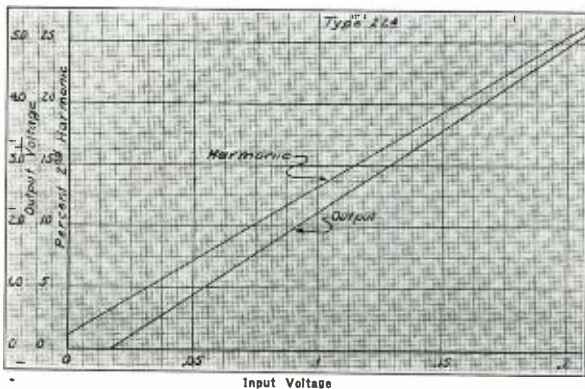

Fig. 6. Test of a heater type screen-grid tube.
B. Fig. 6. Recording of the reverberation time in a studio with the door open and hard surfaces outside.
Various other circuit conditions are necessary to make for proper performance with input potentials greater than 1 volt. Fig. 6 shows typical tests with the same circuit adjustments for a slightly different heater type screen-grid tube.